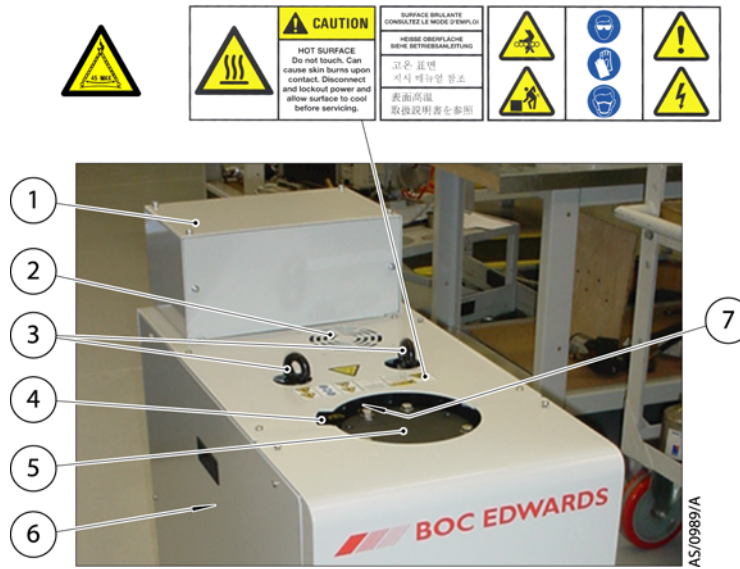

Figure 5 - Top view of pump
1. Use suitable lifting equipment attached to the lifting eyebolts (Figure 5, item 8) to move the iH system close to its final operating position.
2. Use the O-ring supplied and suitable nuts, bolts and washers (not supplied) to connect the inlet-flange (Figure 5, item 3) of the iH system to your vacuum system.
Refer to Figure 5, item 2.
Refer to Figure 5, items 6 or 7.